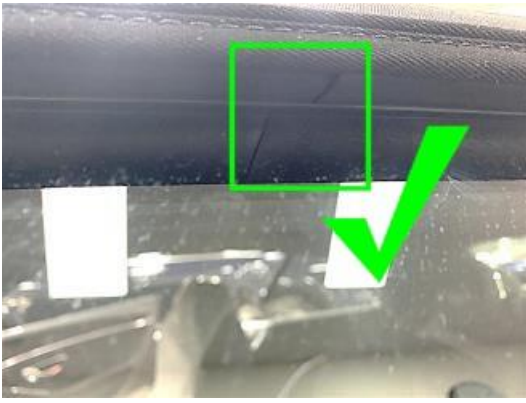

Figure 3
- Figure3-Roofframe seal OK- roofframe seal <2mm